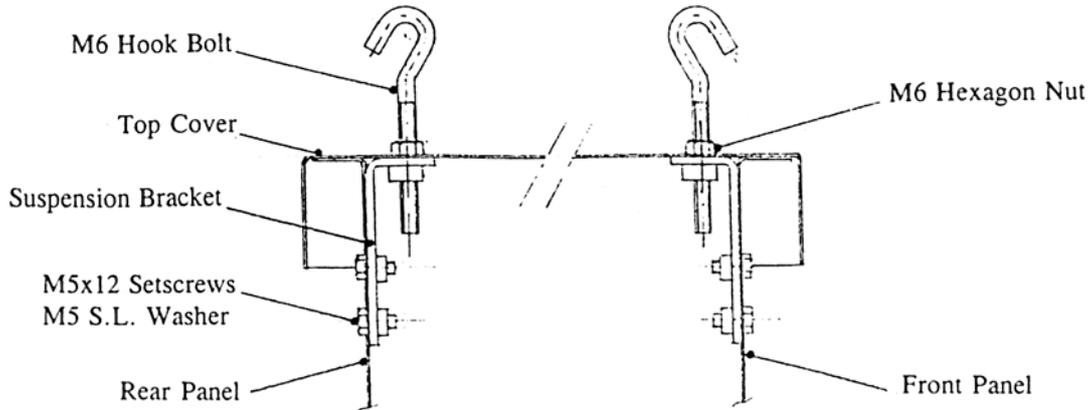

Fig. 4
- 3.2.1 Remove the Plastic Plugs from the appliance Top Cover and Front and Rear Covers. Attach the 4 Suspension Brackets provided, to the appliance casing Front Cover and Rear Cover, using 2 - M5 x 12 setscrews and M5 SL Washers per Suspension Bracket, as shown in Fig 4.
- 3.2.2 Screw one M6 Hexagon Nut (fastener pack) onto each of the 4 - M6 Hook Bolts provided and screw the Hook Bolt down through the appliance casing Top Cover and into the Suspension Bracket. Adjust the height of the Hook Bolt as required and lock in position by screwing down the M6 nuts (see Fig 4).